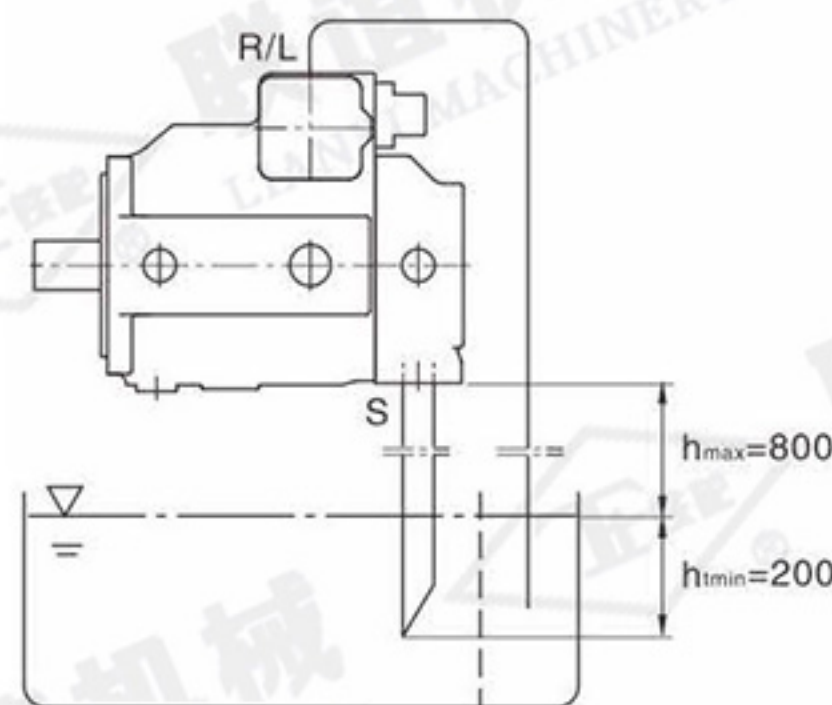

图4
b) 当油箱的最低液面比泵的上端低时，泄油口以及可能包括《S》口必须用管道连接（见图4）。此情况如同本节《安装在油箱外面》中a)项所述。
When the minimum level in the tank is lower than the upper end of the pump, the drain port and possible port S must be connected with pipes. ( See Figure 4 ). This situation is same as what is specified in a) Mounting outside of the Tank in this section.
a) 如安装在油箱之上，请见图4。
For mounting on the tank, see Figure 4.